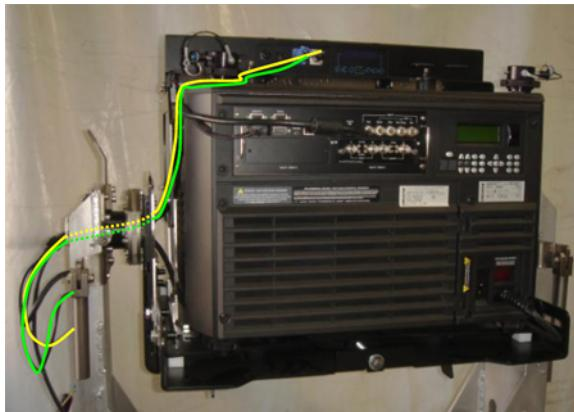

Figure 3-42 Head Box to Yoke Routing
4. Route the Power In and DMX Data In cables to the Head Box as shown in **Figure 3-42**. Make connections to the Head Box (**Figure 3-43**). The Power In connector must be locked by turning the shell clockwise.